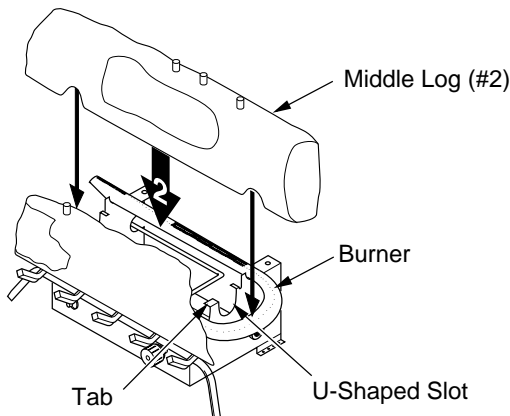

Figure 25 - Installing Middle Log #2 (CCL3930PTB/NTB Shown)
- Place the base of the middle log (#2) in the U-shaped slots of the grate base. The cutout on the right of the middle log should fit over the burner (see Figure 25). Make sure the front of the middle log is resting on the tabs of the grate base.